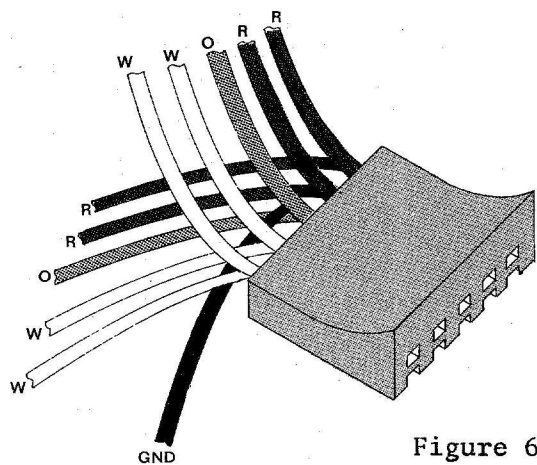

Figure 6
11. Make sure you put the remaining wires into the connector in the correct order (white, white, orange with ground, red, red) according to Figure 6. When all the wires have been inserted into the connector, it may be necessary to insulate the bare wires with either heat shrink or electrical tape.